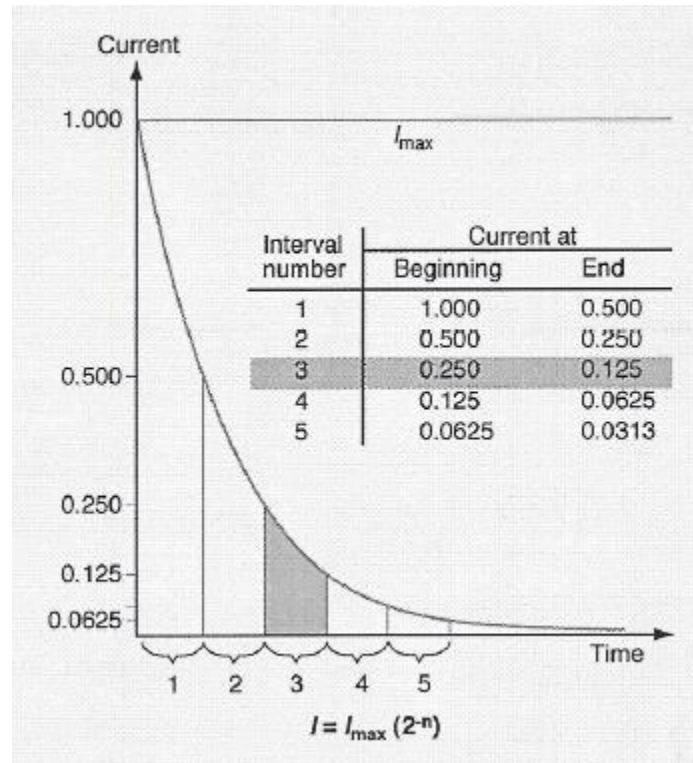
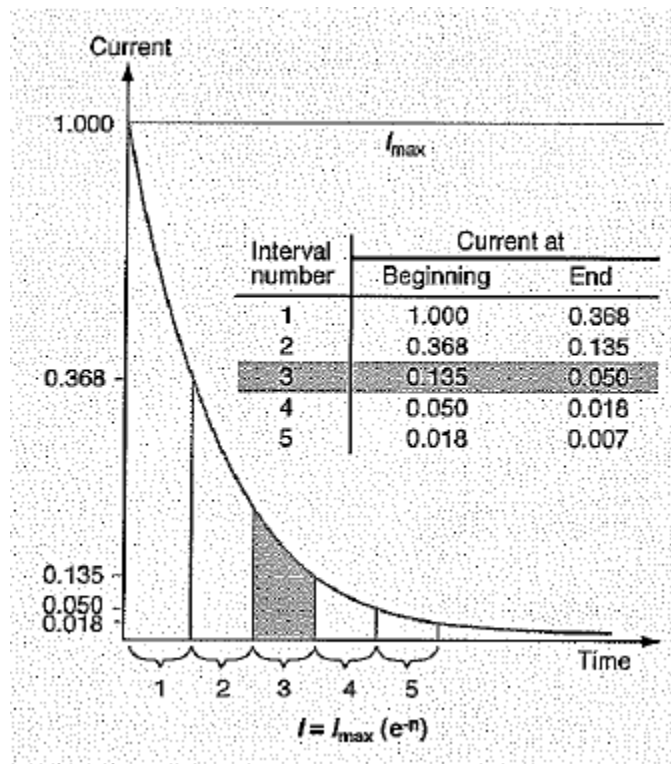

Figure 4.6: Current Decrease – Short Time Intervals
Figure 4.7: Exponential decrease – Standard Time-Constant Intervals
4-52 In Figure 4.6, you can see how the current decreases in a capacitor after a DC potential difference is suddenly applied. The current starts at a maximum value, which depends on how much resistance is in the circuit. As the capacitor charges, the current decreases. When the capacitor is fully charged, the current is zero. The capacitor then acts as an open circuit.
- 4-55 The table in Figure 4.6 shows the values of the current at the beginning and end of the first five time intervals. The equation tells you how to calculate the current at the end of any time interval  $n$ . The 2 in the equation tells you the time intervals have been chosen so that the current always drops to one half ( $\frac{1}{2}$ , the reciprocal of two) the previous value during each interval.
- 4-56 Nature is a little more complicated than the equation in Figure 4.6 implies. Yet scientists and engineers like to write simple equations to describe capacitors. In order to do so, the time intervals must be made somewhat longer. The 2 in the equation must be replaced by the number 2.71828 which is the base of the natural logarithms. This number cannot be written exactly, just as the number  $\pi$  (3.14159...) cannot be written exactly. Therefore, it is represented by the letter  $e$  in equations.
- 4-57 Figure 4.7 is the same graph as the one shown in Figure 4.6. The time intervals have been made longer, so that during each interval the current drops to 0.368 times the value at the beginning of the interval. The number 0.368 is the reciprocal of  $e$ . Notice that the equation in Figure 4.7 is exactly like the equation in Figure 4.6, except that the 2 has been replaced by  $e$ .
4-58 The length of each time interval shown in Figure 4.7 is called the *time constant* of the capacitor. You can calculate its value by multiplying the capacitance in the circuit by the resistance in the circuit. The following equation describes this calculation.